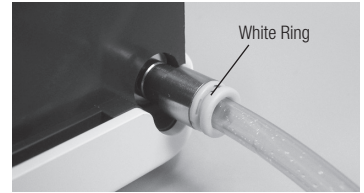

Fig.7
- Pushing the White Ring, (the Quick Connector Release Ring) on the Tap Water Connector, gently pull the tube to remove. (Fig. 7)